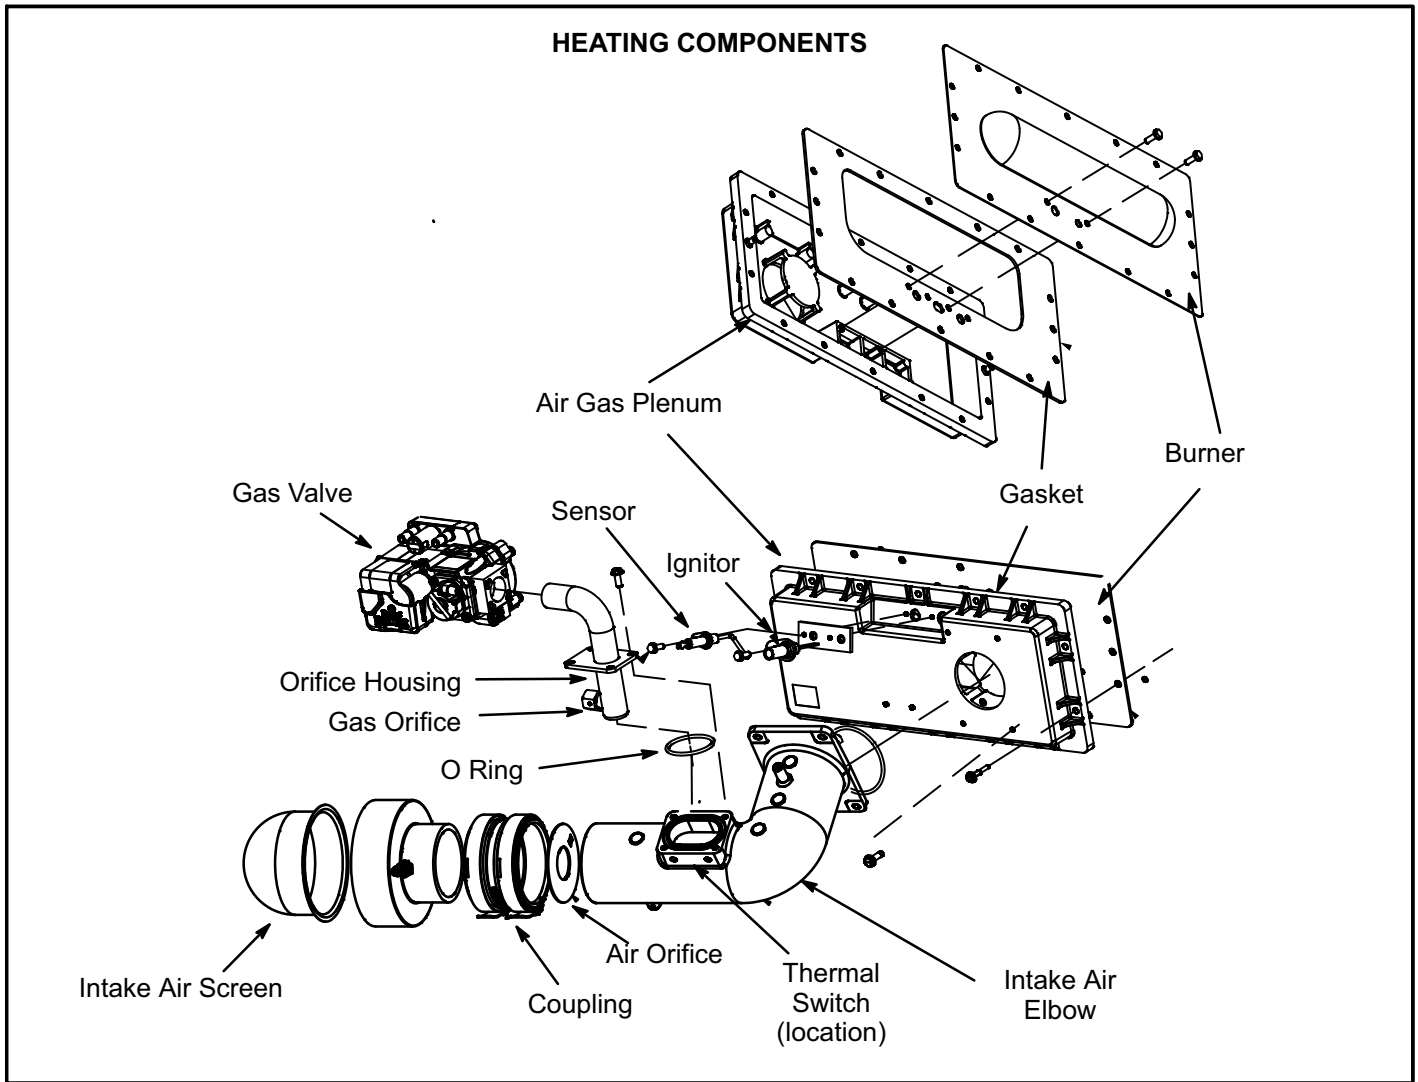

FIGURE 7
5. Thermal Switch (Figure 7)
7. Gas Valve (Figure 7)
8. Flame Sensor (Figure 7)
Burners are factory set and require no adjustment. Always operate the unit with air gas plenum in place. The burner has one orifice located between the gas valve and the air intake assembly (Figure 7). To check or replace the orifice remove the intake air screen, coupling and intake air elbow. Using a 5/8" socket, go through the elbow and unscrew the gas orifice. The burner uses an orifice (see Table 8) that is precisely matched to the burner input. The burner can be removed for service. If burner has been removed, it is critical to replace all gaskets.
12. Ignitor (Figure 7)